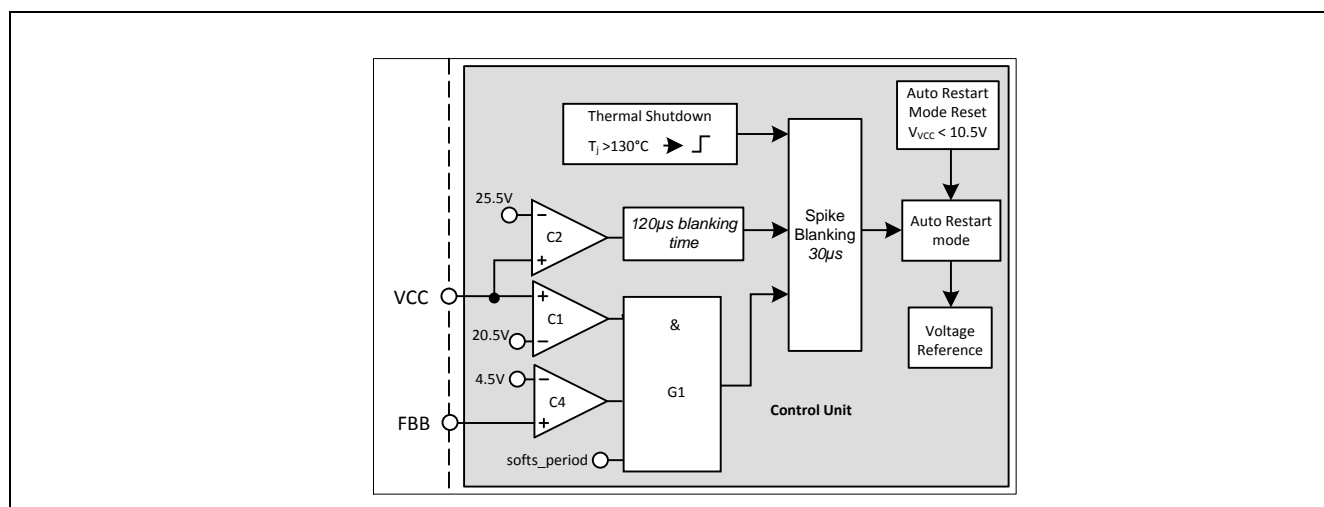

Figure 30: Vcc OVP and OTP
Vcc OVP (1) condition is when V_{VCC} voltage is > 20.5V, V_{FBB} voltage is > 4.5V and during soft start period, the IC enters into odd skip Auto Restart Mode. This condition likely happens during start up at open loop fault (Figure 30).
V_{CC} OVP (2) condition is when V_{CC} voltage is > 25.5V, the IC enters into odd skip Auto Restart Mode (Figure 30).
The over temperature protection OTP is sensed inside the controller IC. The Thermal Shutdown block keeps on monitoring the junction temperature of the controller. After detecting a junction temperature higher than 130°C, the IC will enter into the non switch Auto Restart mode. The ICE3AR2280VJZ has also implemented with a 50°C hysteresis. That means the IC can only be recovered when the controller junction temperature is dropped 50°C lower than the over temperature trigger point (Figure 30).